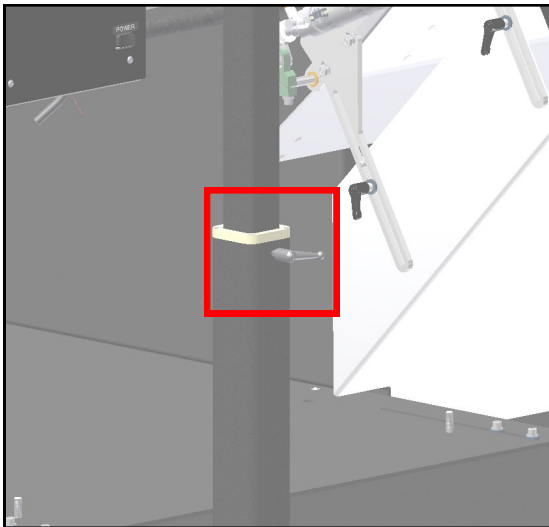

Figure 4-3A. Height Lockdown Levers.
1. Loosen the two Lockdown Levers on each Leg Upright. Figure 4-3A.